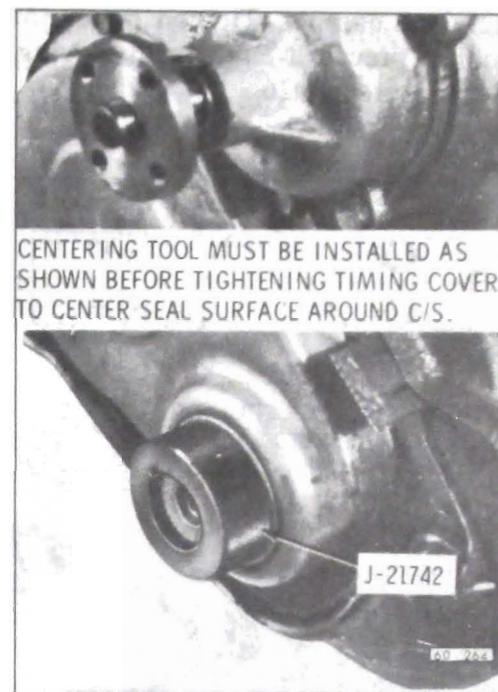

Figure 60-125 - Installing Centering Tool in Cover
2. Install centering Tool J-21742 in crankcase front cover seal. See Figure 60-125.